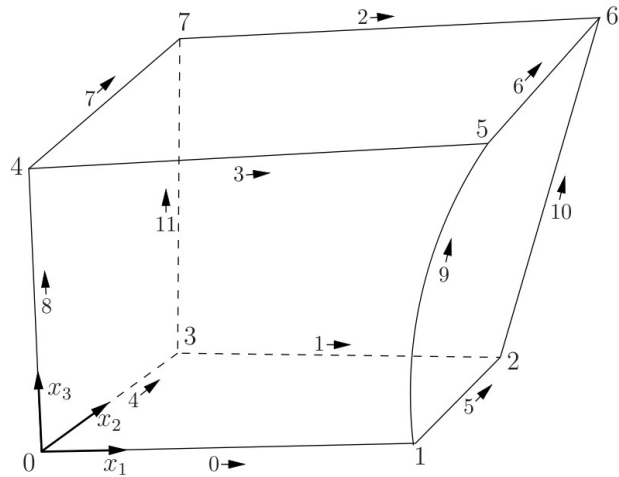

Figure 5.5: A single block
**edgeGrading** The full cell expansion description gives a ratio for each edge of the block, numbered according to the scheme shown in Figure 5.5 with the arrows representing the direction 'from first cell . . . to last cell' e.g. something like